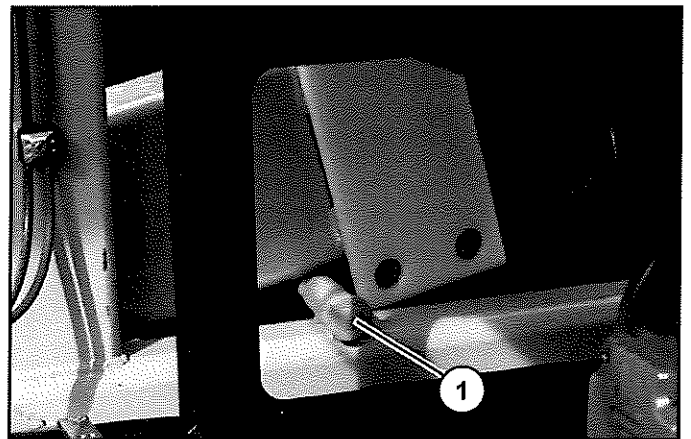

Figure 9
4. Pin (Item 1) (Figure 9) the tag axle to hold it in the upright position.